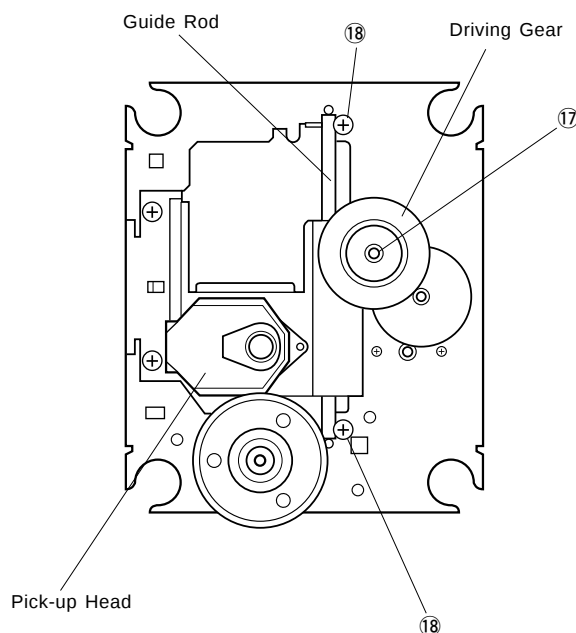

Fig. 13
- Remove a washer (17) and then remove the Driving Gear in Fig. 13.
- Remove 2 screws (18), pull out the Guide Rod and then remove the Pick-up Head in Fig. 13.